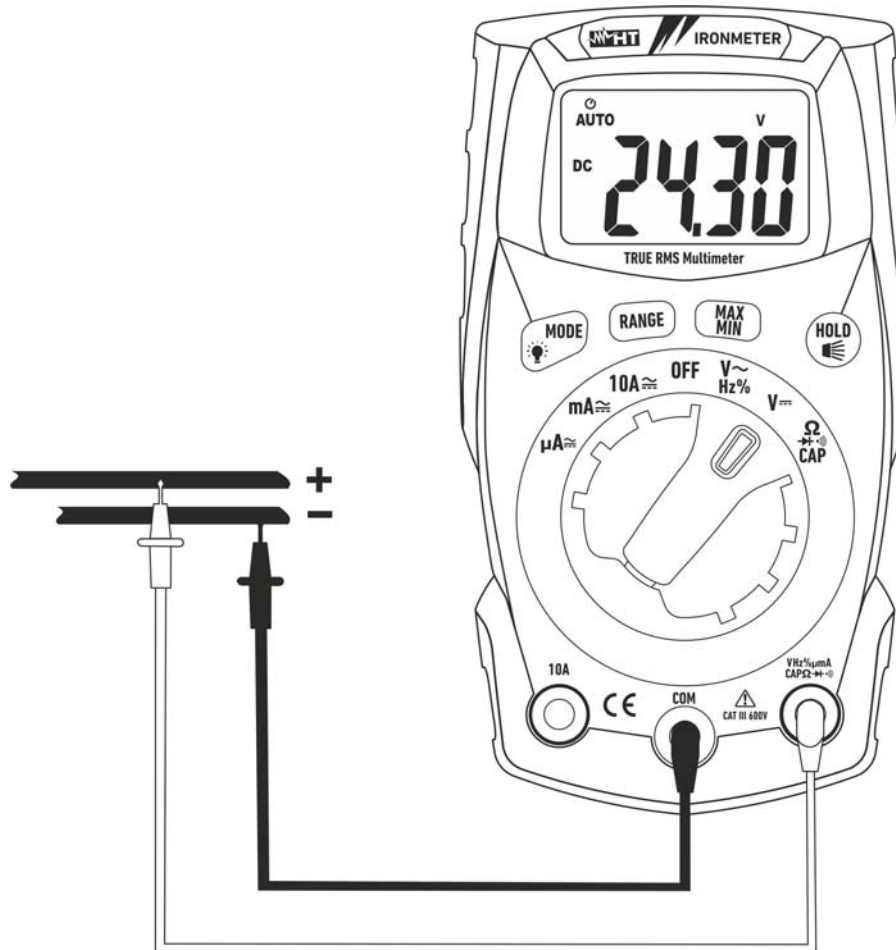

Fig. 3: Use of the instrument for DC voltage measurement
3. Position the red lead and the black lead respectively in the spots with positive and negative potential of the circuit to be measured (see Fig. 3). The display shows the value of voltage.
5. When symbol "-" appears on the instrument's display, it means that voltage has the opposite direction with respect to the connection in Fig. 3.